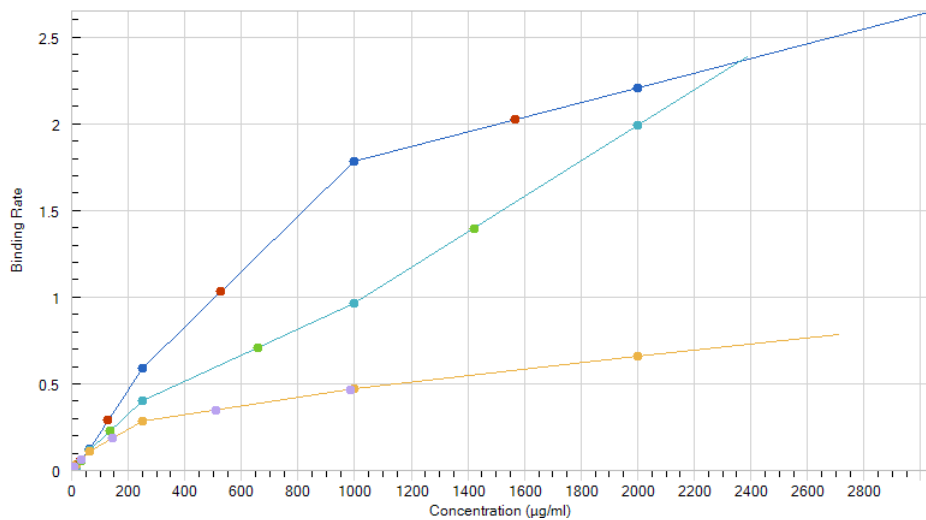

Figure 4-22: Previously Saved Standard Curves Generated by Sensor Type
- b. Click **Load Standards** to load previously saved standard curves (for example Standard 1, Standard 2, and Standard 3, see Figure 4-22), and click **Select Standards**.